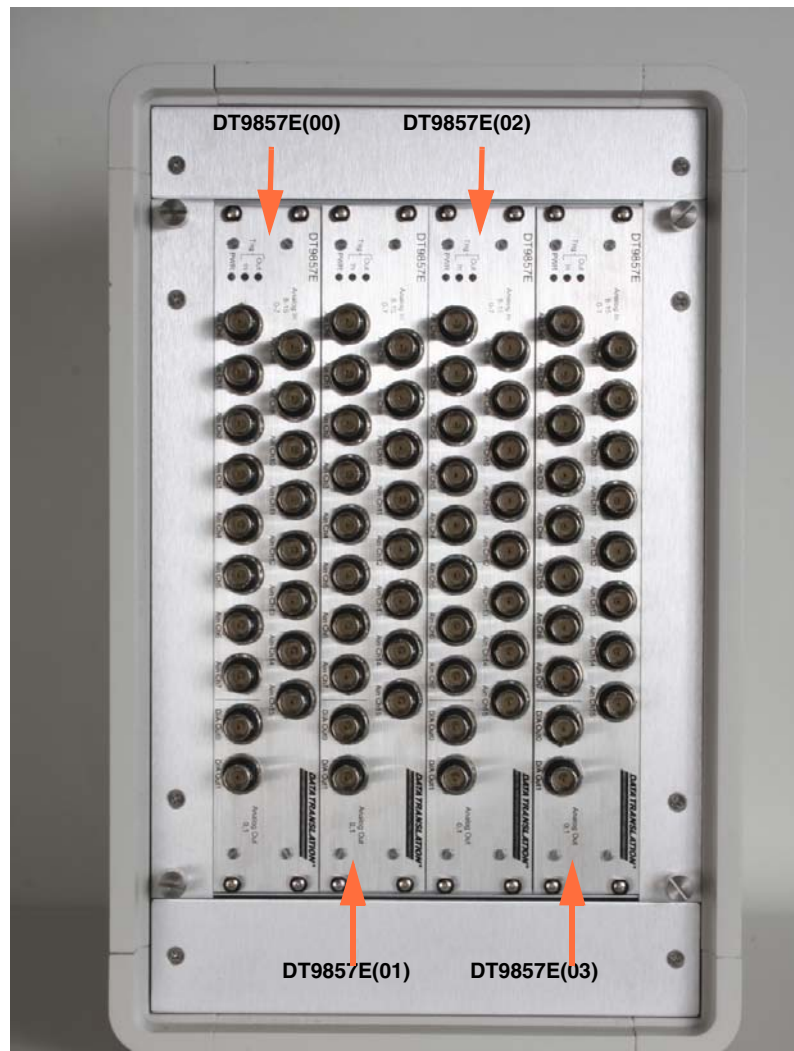
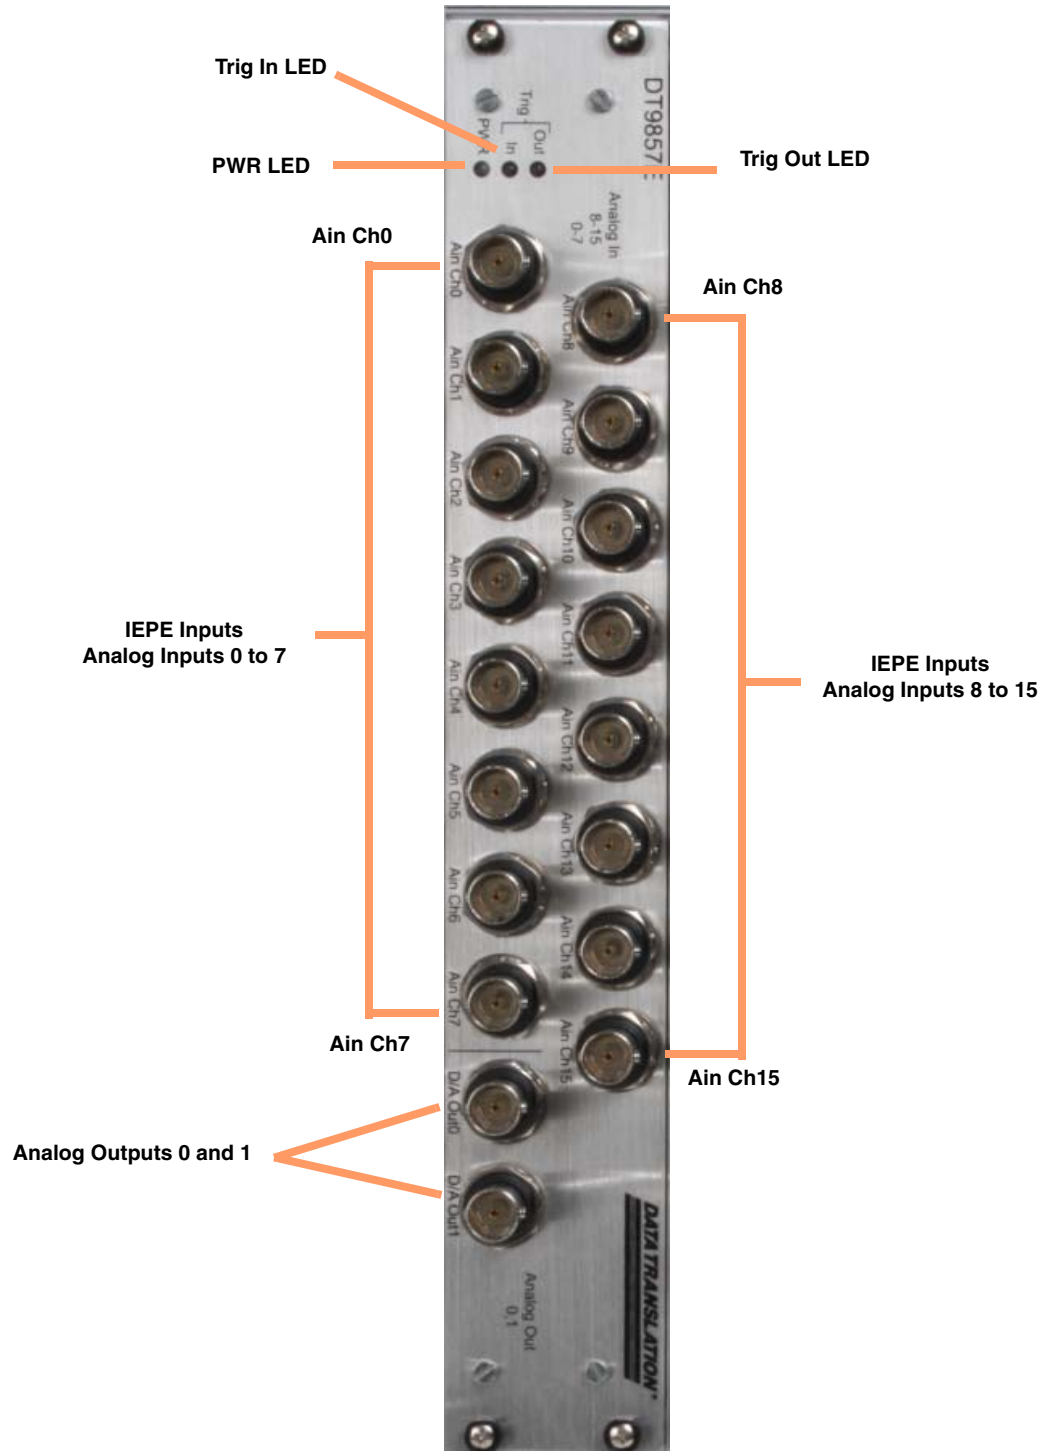

Figure 7: VIBbox Naming
Figure 8: VIBbox Channel Numbering
- DT9857E(00) - This is module in the left-most slot, as shown in Figure 7. Analog input channels are numbered 0 to 15. Analog output channels are numbered 0 and 1. See Figure 8 to see how the channels are numbered on each module in the enclosure.
6. Click the **Identify Device** button to turn the Power LED on the front of the module amber, helping you identify which module you are configuring. Figure 8 on page 30 shows the Power LED on a DT9857E module.